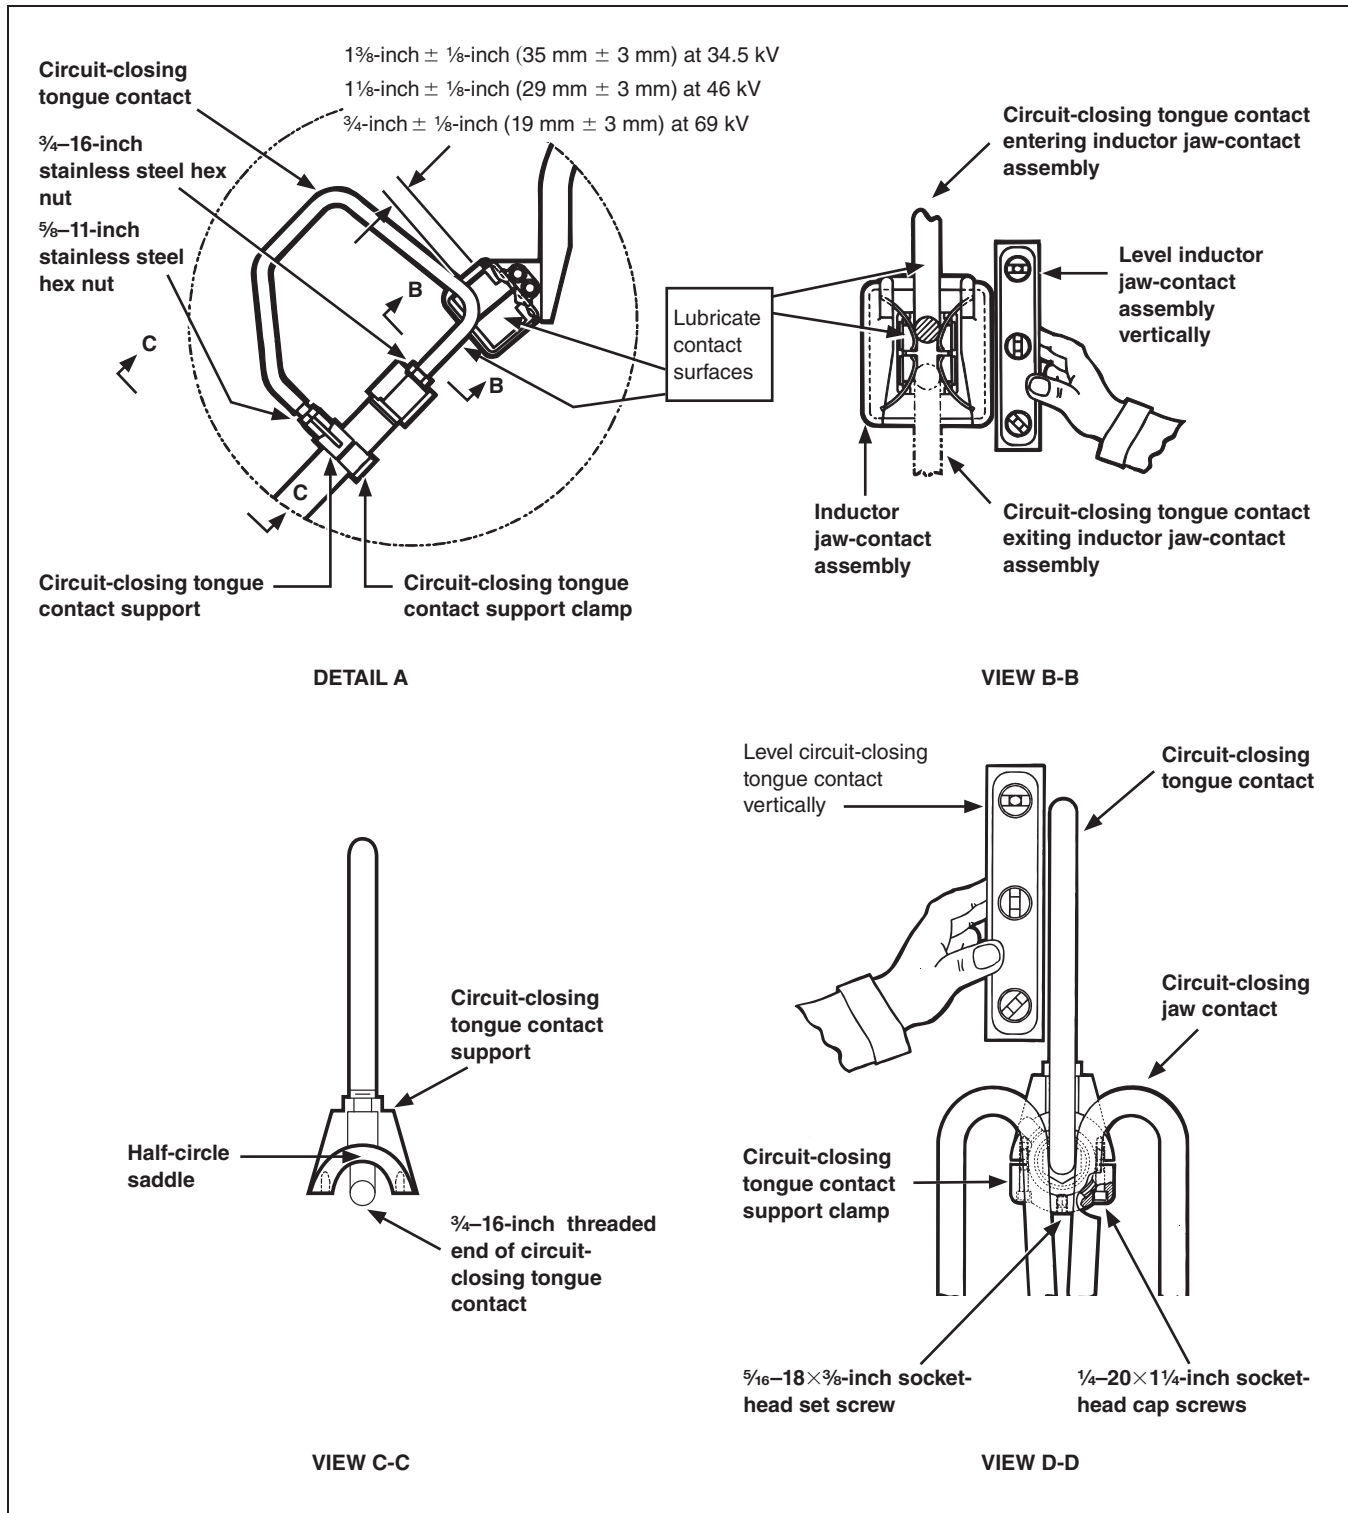

Figure 2. Detail views for assembly of standard-duty pre-insertion inductors for 34.5-kV through 69-kV vertical-break style and integer-style circuit-switchers.
STEP 10. Manually close the circuit-switcher so the circuit-closing tongue contact engages both contacts of the inductor jaw-contact assembly with equal pressure on each side. See View B-B in Figure 2 on page 8.
Adjust the contact support tube to attain the dimension shown in Detail A in Figure 2 on page 8. Securely tighten the four $\frac{1}{2}$ -13 \times 1 $\frac{1}{4}$ -inch hex-head stainless steel cap screws which secure the support tube mounting clamps to the inductor assembly top end cap.
STEP 11. Level the inductor jaw-contact assembly vertically while maintaining the circuit-closing tongue contact engaged between the inductor contacts with equal pressure. See View B-B in Figure 1 on page 7. Securely tighten the two $\frac{3}{8}$ -16 \times $\frac{3}{4}$ -inch hex-head stainless steel cap screws which attach the inductor jaw-contact assembly to the contact support tube. See side and front views in Figure 2 on page 8.
STEP 12. Continue closing the circuit-switcher and verify the circuit-closing tongue contact continues to engage both contacts with equal pressure as it exits the inductor contact assembly. See View B-B in Figure 2 on page 8.
STEP 13. Loosen the $\frac{3}{4}$ -16-inch stainless steel hex nut which secures the circuit-closing tongue contact to the disconnect blade and loosen the two $\frac{1}{4}$ -20 \times 1 $\frac{1}{4}$ -inch socket-head cap screws and $\frac{5}{16}$ -18 \times $\frac{3}{8}$ -inch, socket-head set screw which secure the circuit-closing tongue contact support to the disconnect blade. See Detail A and View D-D in Figure 2 on page 8.
STEP 14. Manually operate the circuit-switcher to recheck the circuit-closing tongue contact is centered on the contacts of the inductor jaw-contact assembly during closing and opening. Lubricate the contact surfaces with an appropriate lubricant, such as S&C catalog number 9999-043, furnished. See Detail A in Figure 2 on page 8.